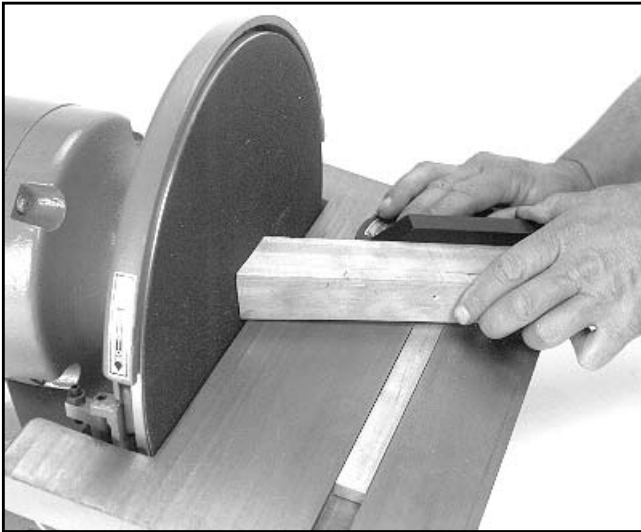

Figure 17. Disc sanding.
3. Ease workpiece into the half of the disc that spins down toward the table. **See Figure 17.**